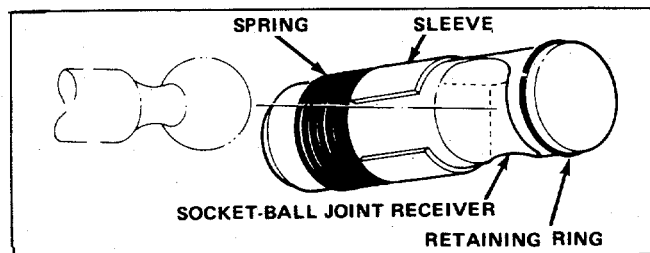

Figure 6
4. Align ball sockets with ball studs so hooded portion of socket is at top and open side towards stud (Fig. 6).
5. Slide the sleeve back on the ball joint and rotate the pull arm down so the socket fits over the ball stud. Release the sleeve so it slides forward over the stud and locks the assemblies together. Tighten the jam nuts to secure the sockets in position (Fig. 6).